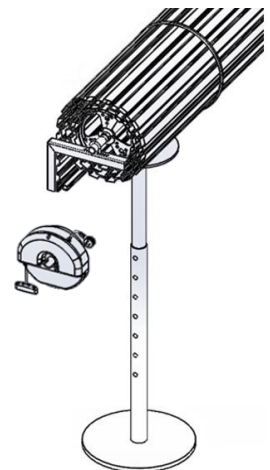

Fig 4.
6. Slide the opener onto the door axle as shown in Fig 4. Ensure the drive forks engage fully with the narrowest spoke on the drum wheel. A fork extension kit may be necessary.